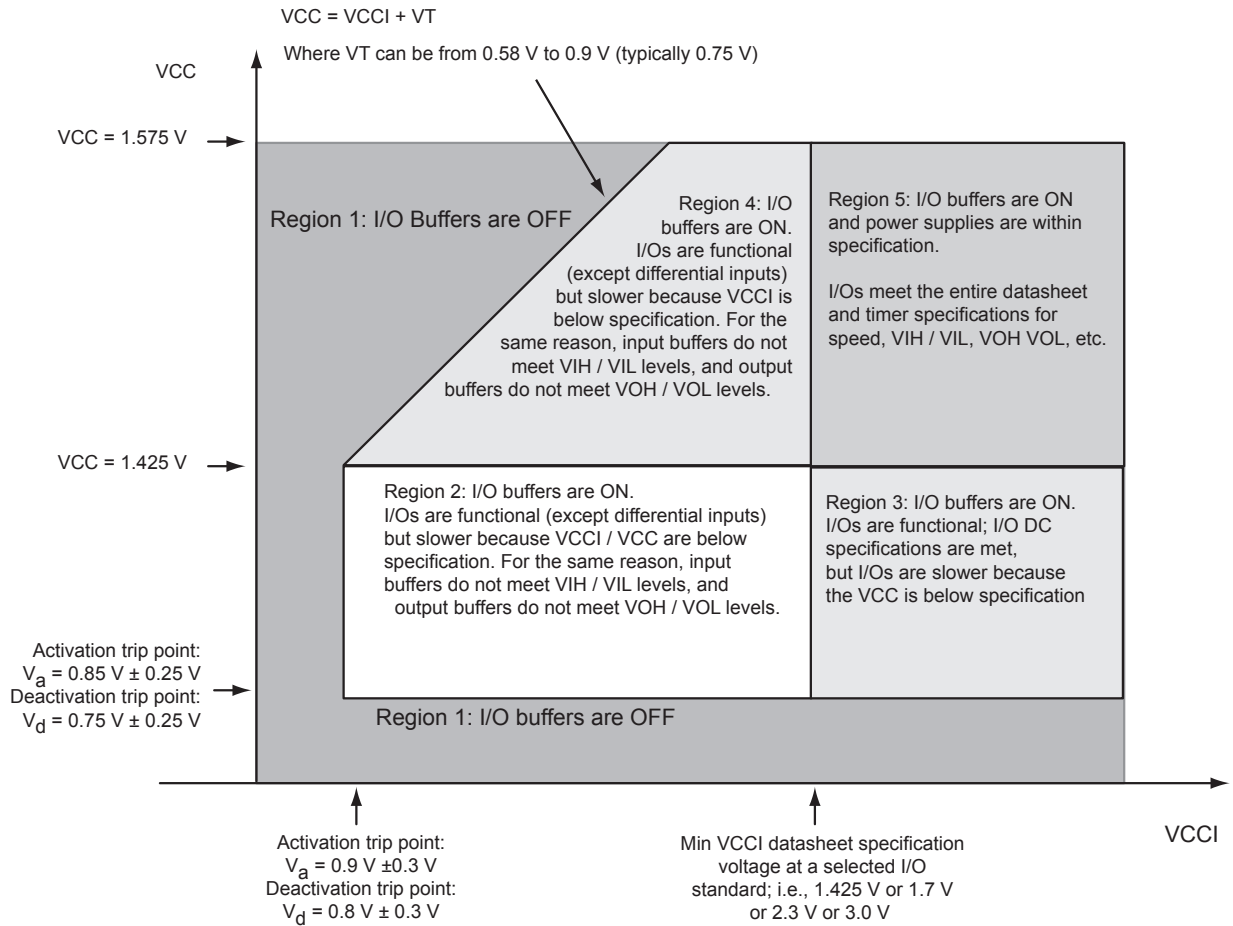

Figure 3-1 • I/O State as a Function of VCCI and VCC Voltage Levels
Sophisticated power-up management circuitry is designed into every Fusion device. These circuits ensure easy transition from the powered off state to the powered up state of the device. The many different supplies can power up in any sequence with minimized current spikes or surges. In addition, the I/O will be in a known state through the power-up sequence. The basic principle is shown in Figure 3-1 on page 3-6.
1. VCC and VCCI are above the minimum specified trip points (Figure 3-1).
Microsemi recommends using monotonic power supplies or voltage regulators to ensure proper power-up behavior. Power ramp-up should be monotonic at least until VCC and VCCPLX exceed brownout activation levels. The V_{CC} activation level is specified as 1.1 V worst-case (see Figure 3-1 on page 3-6 for more details).